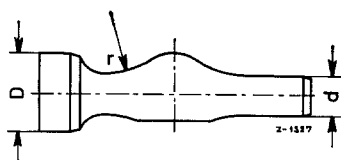

Figure 01-1/5
The ball pin fitted in both prechamber versions has a fillet radius of 10 mm. The ball pin (a) has a press fit at the side of the larger diameter, while on the other side it has a sliding fit which allows easy expansion and contraction ensuring high durability (see Figure 01-1/5 and 01-1/10).
12. Install new sealing ring (3) in the cylinder head. For this purpose, only the original sealing ring with the specified thickness and shape must be used (see Figure 01-1/9), so that the distance (c) which is marked by arrows, can be attained between the pre-combustion chamber and the cylinder head.